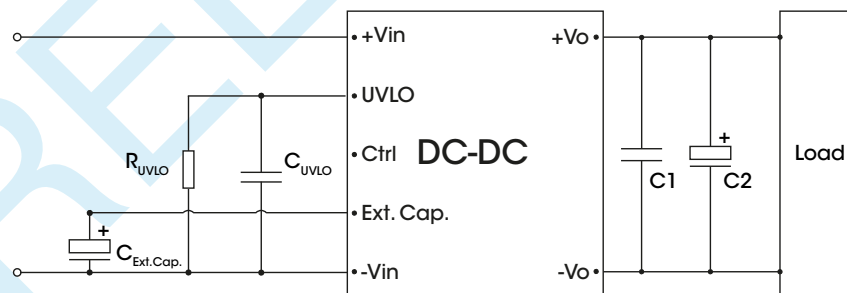

Figure 9. Power-off protection time recommended circuit
3. The UVLO pin can adjust the point of input under-voltage protection by the external resistance R_{UVLO} , for the value of R_{UVLO} , please refer to Fig.9. If the pin is open circuit, the point of input under-voltage protection is 11 V.